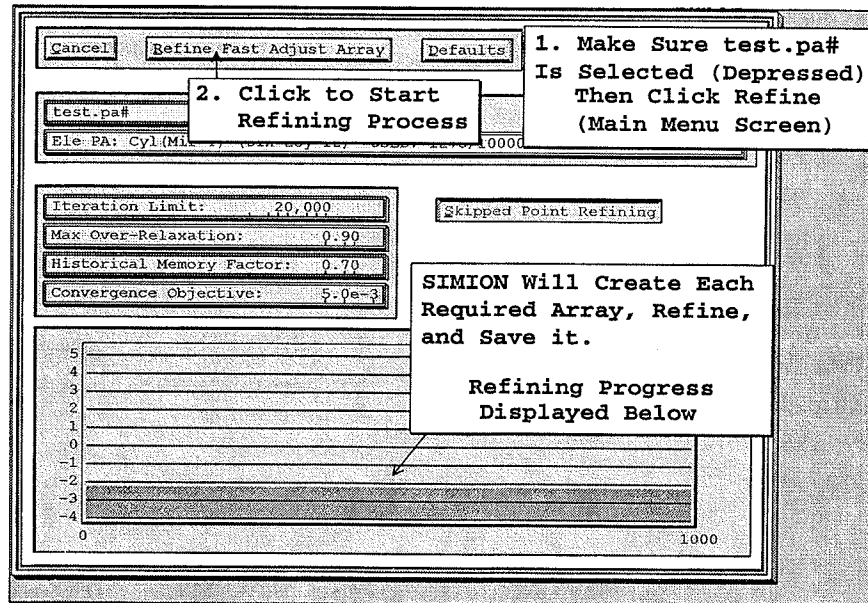

Figure 2-13 How to Refine a .PA# file
The next task is to refine the potential array (*solve for the electrostatic fields*). When you refine a .PA# potential array SIMION doesn't actually refine the .PA# array itself. It uses the .PA# array as a definition for the collection of arrays that Refine actually creates, refines, and saves in the current directory (*mystuff*). Use the follow steps to refine the array (*Figure 2-13 below*):
1. Check to see that **TEST.PA#** is the currently selected array (*its button is depressed on the Main Menu Screen*). Click the **Refine** button. You should now be looking at the Refine Screen (*Figure 2-13*).